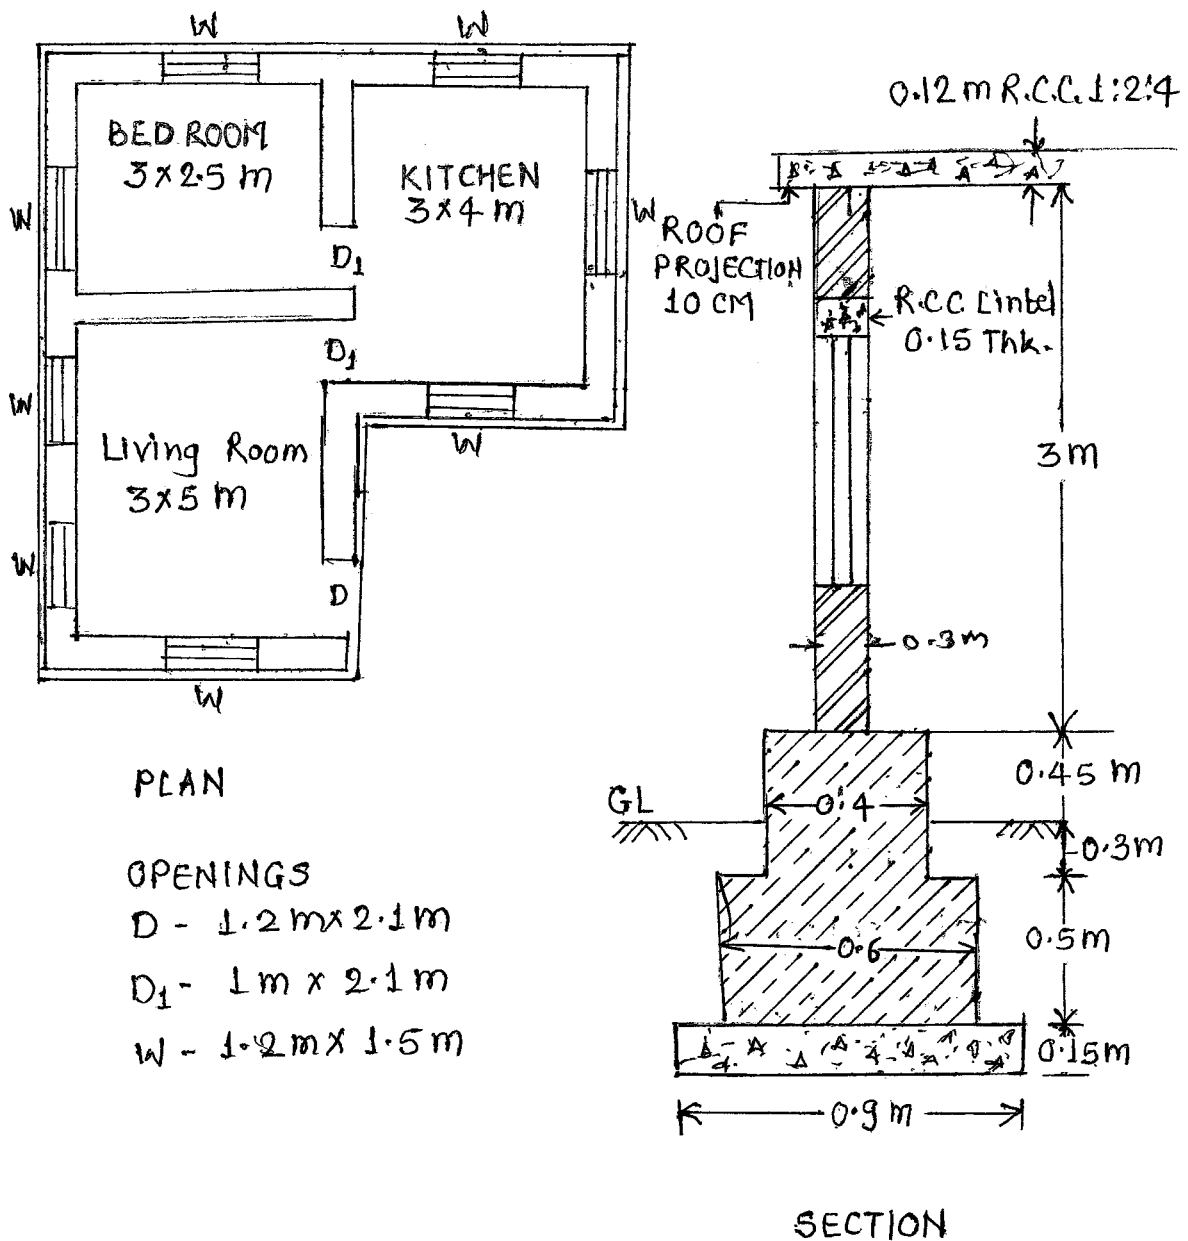

Fig. No. 1 (Q. No. 4 a)
4. A) Workout quantities of any three items of work for figure no. 1